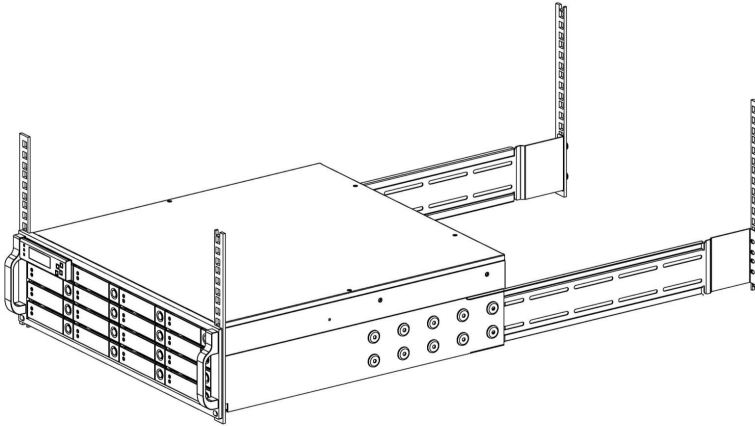

Figure 3.
2. Fasten two M5 screws through the chassis ears in the front side of the chassis to secure the AccuSTOR subsystem in the rack as Figure 3.